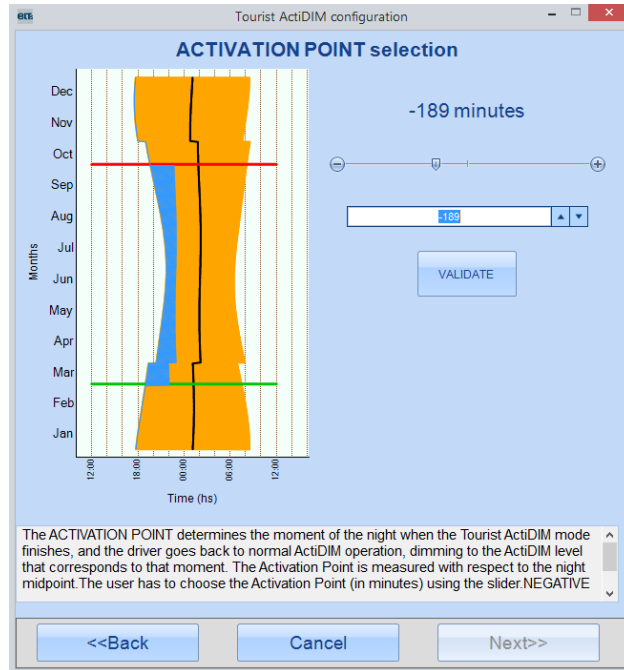
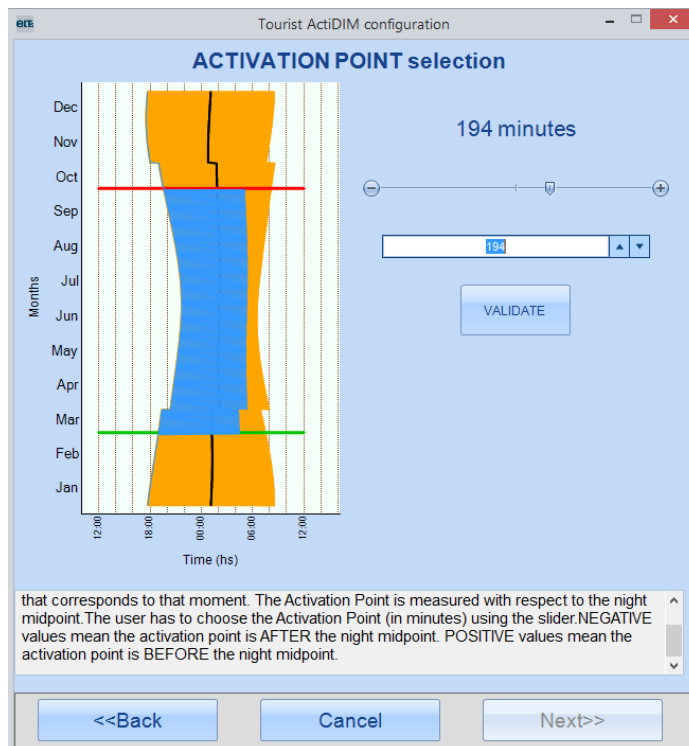

Fig. 54- NEGATIVE activation point.
Fig. 55- POSITIVE activation point.
This parameter is measured in minutes, and it is interpreted as time counted from the night midpoint. Its range is from -720 to 720 minutes (Fig. 54 and Fig. 55).
- Negative values: the activation point is BEFORE the night midpoint (Fig. 54).
- Positive values: the activation point is AFTER the night midpoint (Fig. 55).